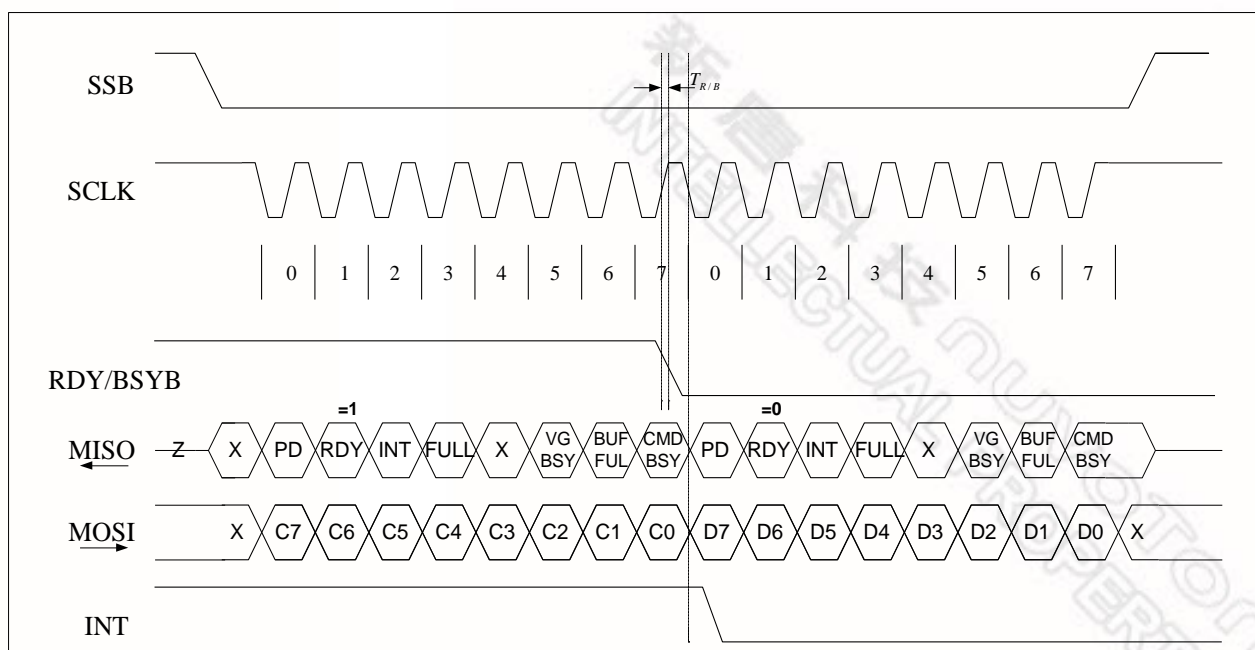

Figure 6-3 SPI Transaction Ignoring RDY/BSYB
The INT pin will go low to indicate (1) data overrun/overflow when sending data to the ISD3900; or (2) invalid data from ISD3900. See Figure 6-3 for the timing diagram.